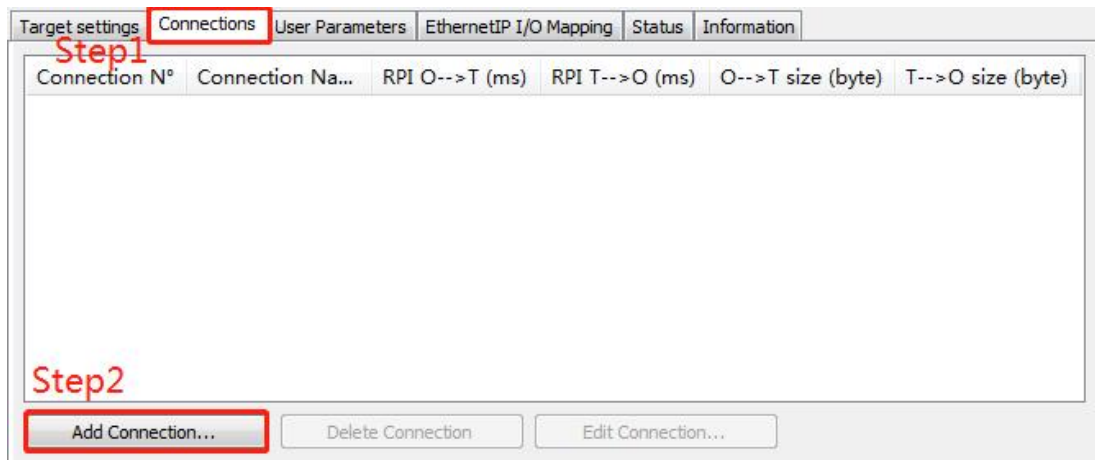

Figure 5-3-14
- After clicking Connect, a new connection is created as shown in Figure 5-3-14.